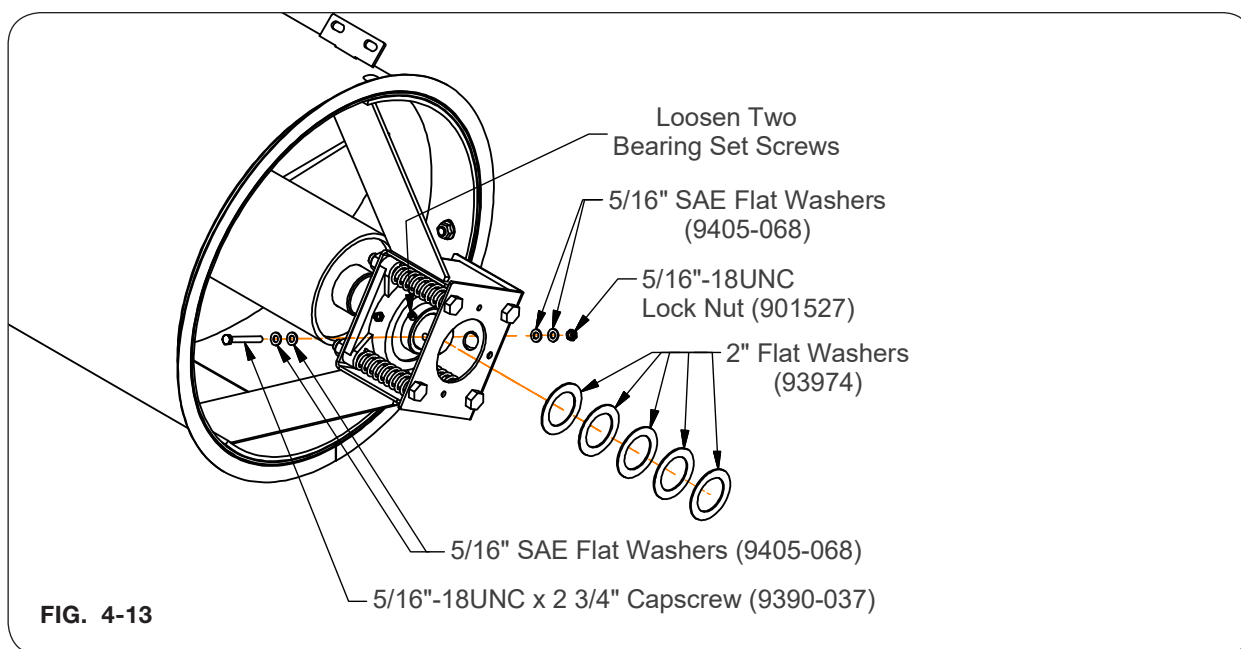

FIG. 4-13
2. Loosen the two bearing set screws. Remove and save the 5/16"-18UNC x 2 3/4" capscrew (9390-037), four 5/16" SAE flat washers (9405-068) 5/16"-18UNC lock nut (901527) and 2" flat washers (93974). (FIG. 4-13)